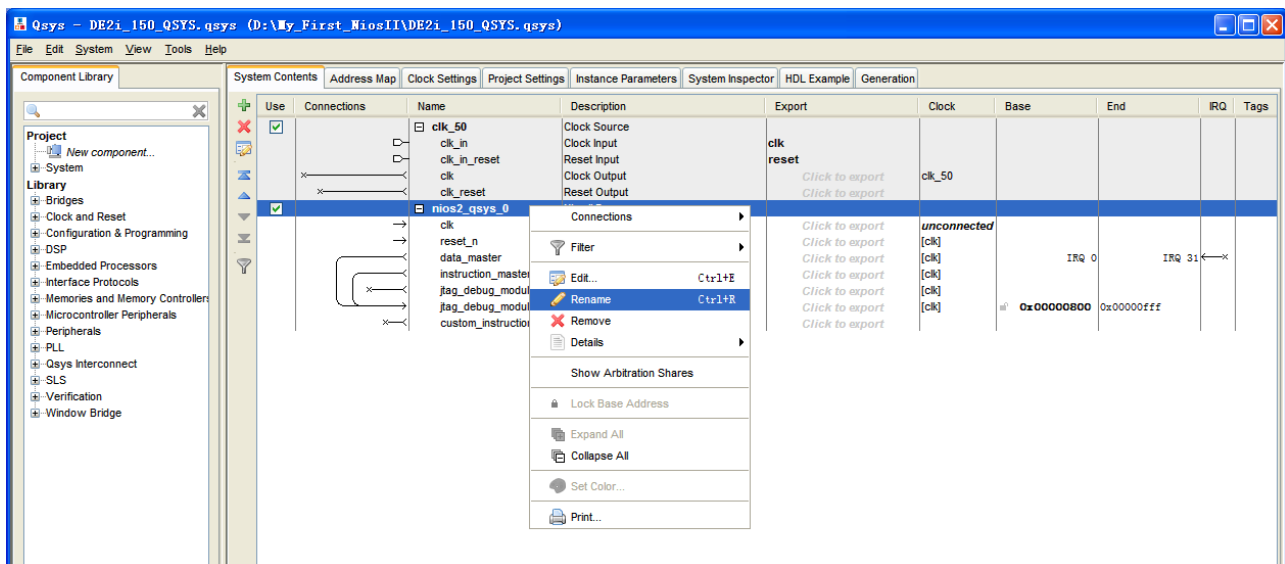
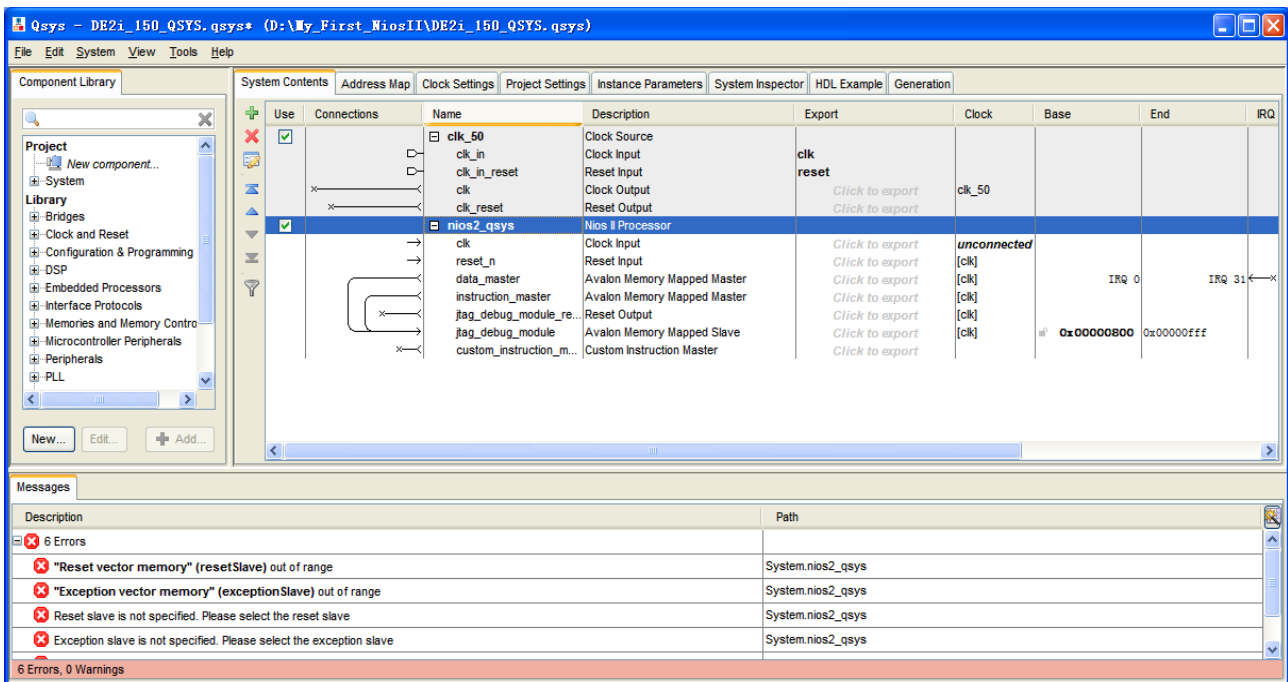

Figure 1-18 Rename CPU name (1)
Figure 1-19 Rename CPU Name (2)
- Choose **nios2\_qsys\_0** and right-click then choose **rename**, after this, you can update **nios2\_qsys\_0** to **nios2\_qsys**. See Figure 1-18 and Figure 1-19.